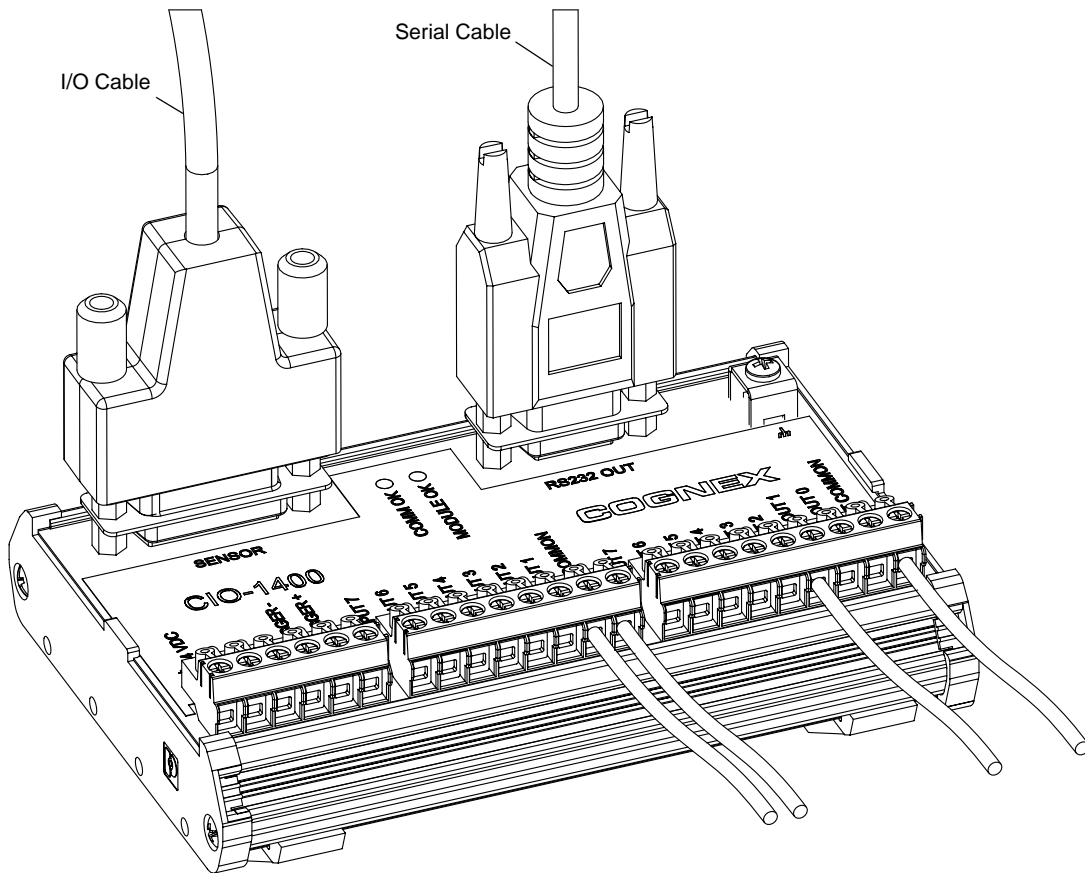

Figure 2-2: Connecting the I/O Cable and Serial Cable
6. Plug the I/O module cable (DB15 connector) into the expansion module, as shown in Figure 2-2.